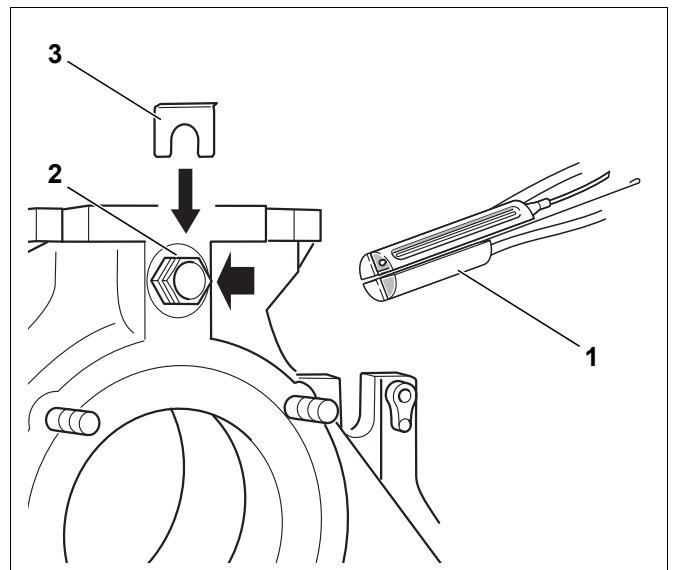

Fig. 62 Install the temperature sensor set
The temperature sensor set (three sensors, one sensor blank Fig. 62, [1]) connected to the control unit is fitted into the R 3/4" sensor well.
- Route the capillary sensor to the measuring point on the boiler and insert it into the sensor well as far as it will go (Fig. 62, [2]); then secure the assembly with a sensor securing device (Fig. 62, [3]).